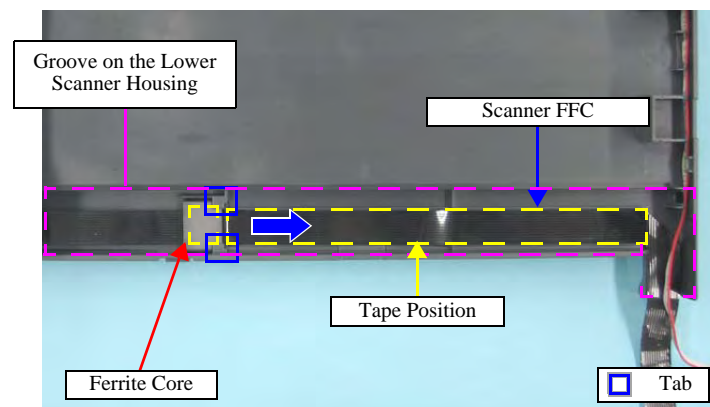

Figure 4-99. Removing Scanner FFC
- When installing the Scanner FFC to the Lower Scanner Housing, secure it and the ferrite core with double-sided tapes at the specified positions. (refer to Figure 4-99)